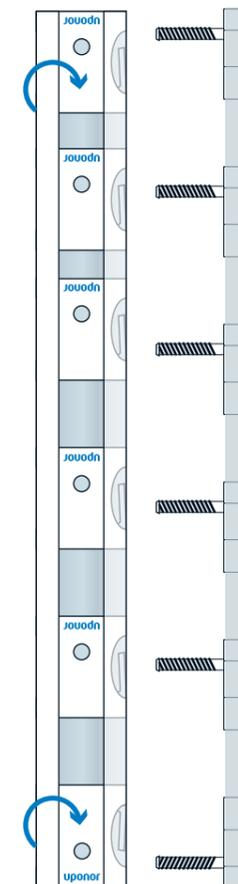

Figure 3: Insert retention clips
1. Insert the retention clips into the rail. Ensure the top and bottom retention clips are rotated 180 degrees so the bolt is closest to the outer edge (see **Figure 3**).